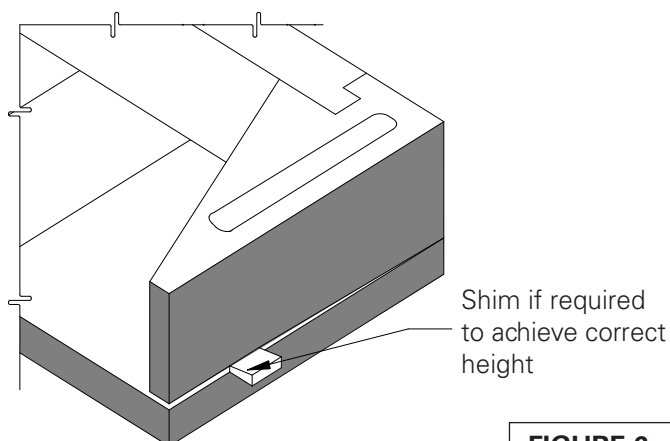

FIGURE 6
Earthcore mortar is not intended to create a mortar joint of any thickness for leveling purposes. Therefore, leveling and alignment adjustments are made by the use of small plastic shims supplied with the unit. **(Figure 6)**
4. When all of the firebox wall components are set, check the top surface of the firebox for level. If necessary, adjust the top surface of the box assembly for level by inserting a shim between the lowest wall component and the top surface of the base plate. **(Figure 6)**
If the design preference is for a raised hearth (floor of the fireplace elevated above the room's floor), then the base plate can be set on a platform that is built up to the desired raised hearth height on the support. **(Figure 6)**